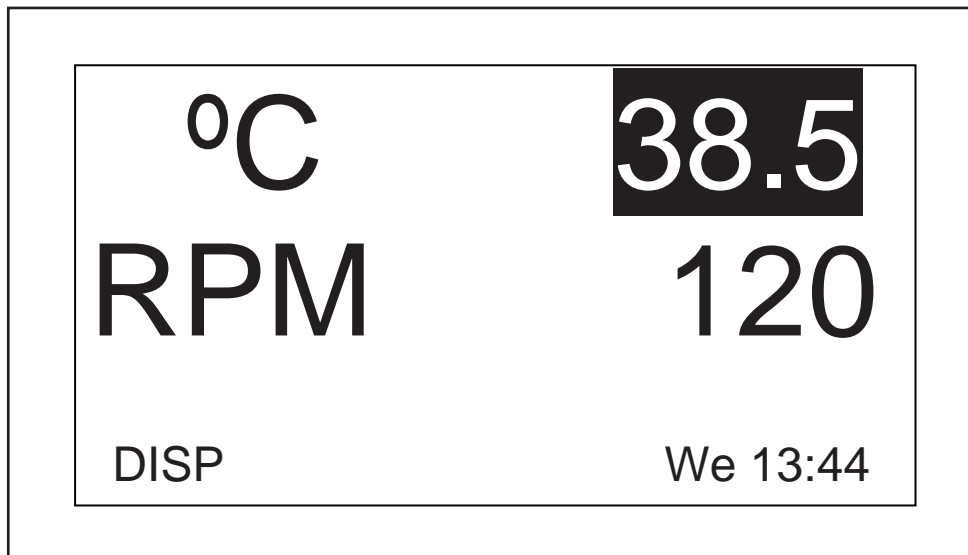

Fig. 9-3: Changing setpoint
2. Click the knob in to display the current setpoint (in this example, 38.5 (see Fig. 9-3 on p. 49)), which will flash.